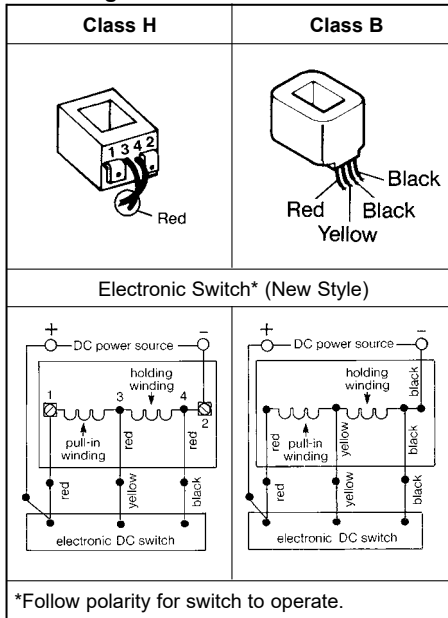

Figure 5
1. All Stearns DC coils are single voltage and have dual windings. A high current pull-in winding, and a low current holding winding. See Figure 5. An electronic switch with internal timing circuit is used to switch the coil from high current to low current. Due to the high initial current demand of a DC solenoid, a separate DC power source of adequate current capacity is usually required.
2. Connect proper power to the two terminals or two outside wires of the coil as shown in Figure 5. (Polarity must be maintained.)